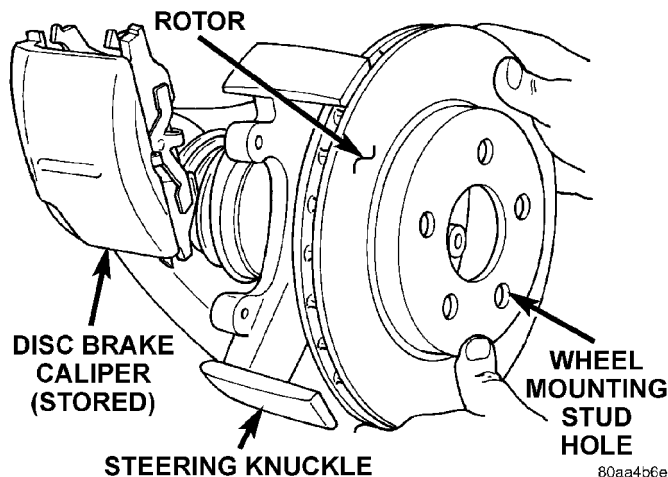

Fig. 61 Removing/Installing Brake Rotor
(6) Remove brake rotor from hub by pulling it straight off the wheel mounting studs (Fig. 61).
(1) Completely retract caliper piston back into piston bore of caliper. This is required for caliper installation with new brake shoe assemblies.
(2) Lubricate both steering knuckle abutments with a liberal amount of Mopar® Multipurpose Lubricant, or equivalent.
(3) Install the front rotor on the hub, making sure it is squarely seated on face of hub (Fig. 61).
(4) Remove the protective paper from the noise suppression gasket on both the inner and outer brake shoes (if equipped).